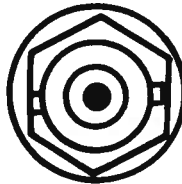

Figure 2.19 CHAN 1 and 2 Connectors
2.2.4 CHAN 1 and 2 CONNECTORS (Figure 2.19)
2.2.5 MONIT CONNECTOR (Figure 2.19)